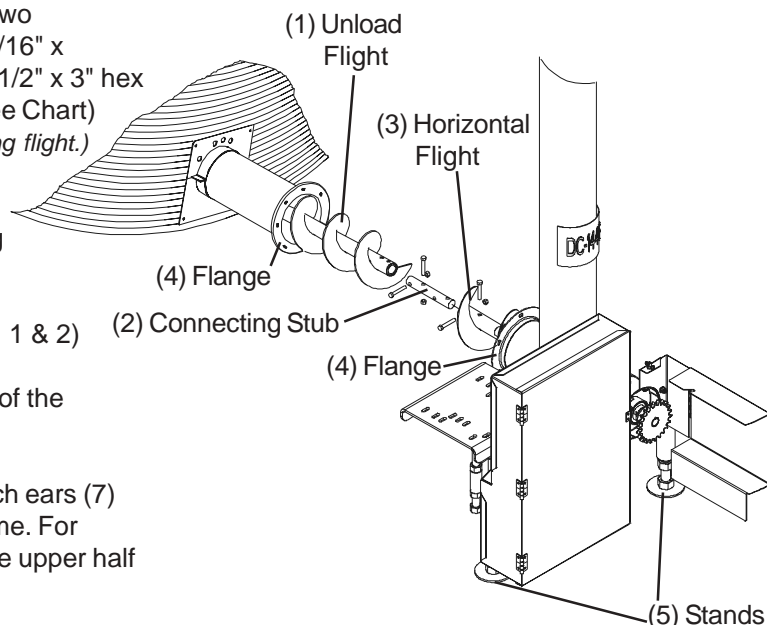
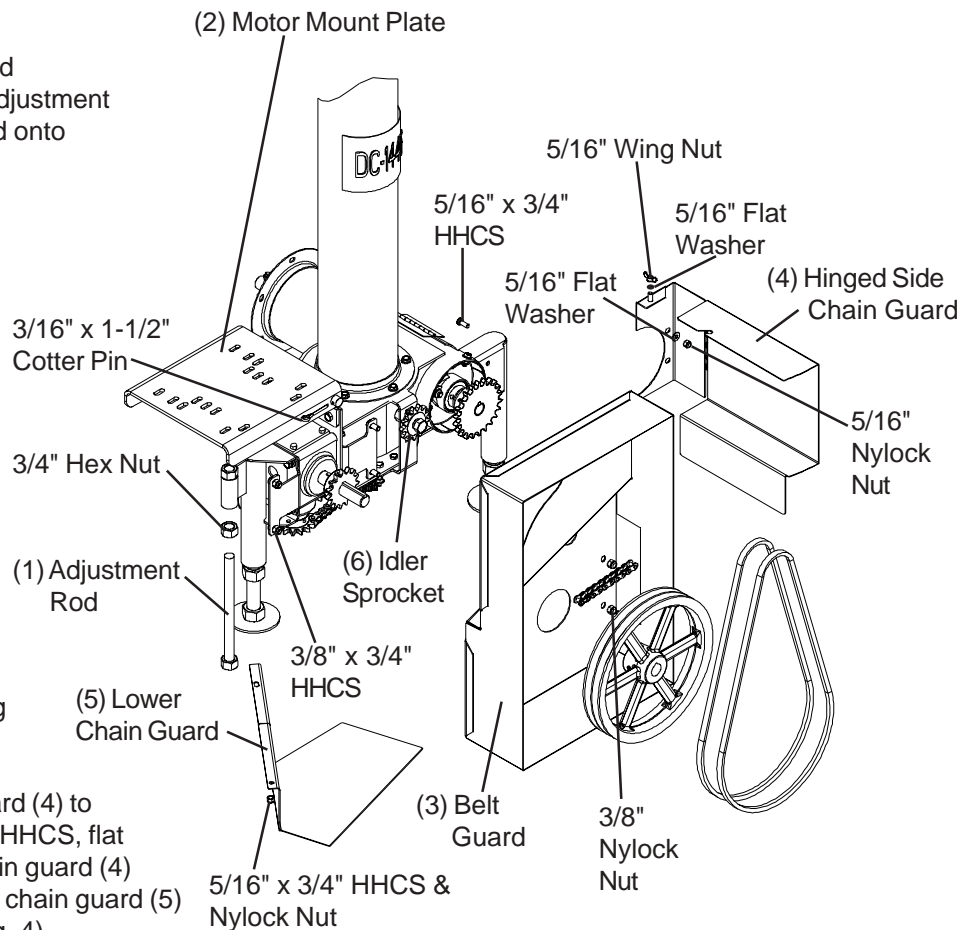

FIG. 1
FIG. 3
- C. Slide bin unloading flight (1) into unloading tube. With vertical auger (13) in upright position, attach flanges (4) together using 5/16" x 3/4" bolts with hex nuts. (See Fig. 1 & 2)
- D. Adjust stands (5) so they hold the weight of the vertical auger. (See Fig. 1)
A. Assemble a 3/4" nut onto threaded adjustment rod (1). Then thread adjustment rod into the 3/4" nut that is welded onto the sleeve of vertical. (See Fig. 1)
B. Slide motor mount plate (2) onto pivot rod weldment of vertical. Install cotter pin to hold motor mount plate place.
C. Attach belt guard (3) to belt guard mounting brackets with four 3/8" x 3/4" long HHCS and nylon locknuts.
D. **6" & 8"**: Attach hinged side chain guard (4) to vertical with two 5/16" x 3/4" long HHCS, flatwashers and nylon locknuts. Hold chain guard closed by using a 5/16" flat washer and wing nut. (See Fig. 3)
- E. **6" & 8"**: Bolt lower chain guard to underside of vertical using (2) 5/16" x 3/4" long HHCS and nylon locknuts. (See Fig. 3)
- G. Install a 4-1/2" O.D. pulley for 6" & 8" models on motor and for 10" models use a 4" O.D. pulley on motor. (*This pulley not furnished.*) Install 12" pulley on gearbox shaft as close to the sprocket as possible that is already mounted there. Using the 1/4" square key, which should already be in place, tighten setscrews in pulleys. (See Fig. 3 & 4)
- H. Install belts onto pulleys and tighten by using the adjustment rod (1) to raise motor mount plate (2). Once the belts are tight, use locking nut to secure adjustment rod in place.